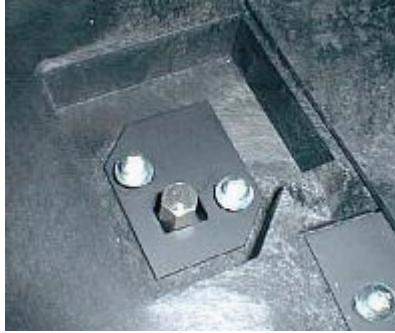

Figure 136 Screwing down the plates
8. Secure the plates with the two screws, as shown in Figure 136.